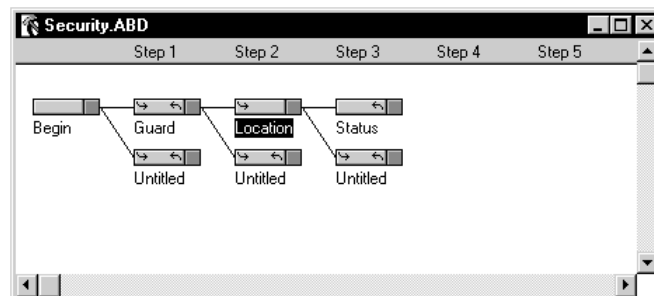

Figure 4-35 New Input Handler Added
10. A new untitled Input Handler is added to the “Location” Handler (Figure 4-35).